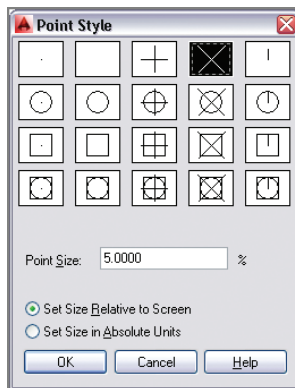

FIGURE 2.22 Changing
3. You will use preexisting points as guides in drawing the burners. However, the points are difficult to see right now because they are represented as single pixels. Expand the Utilities panel on the Home tab, and select Point Style. In the Point Style dialog box, select the X icon and click OK (see Figure 2.22).